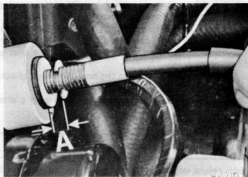

Fig. 5.5. Clutch cable adjustment - dimension 'A' indicates three grooves (Sec. 3)
- 12 Hold the cable in this position and fit the circlip on the cable so that there are three grooves between the circlip and damper (Fig. 5.5).